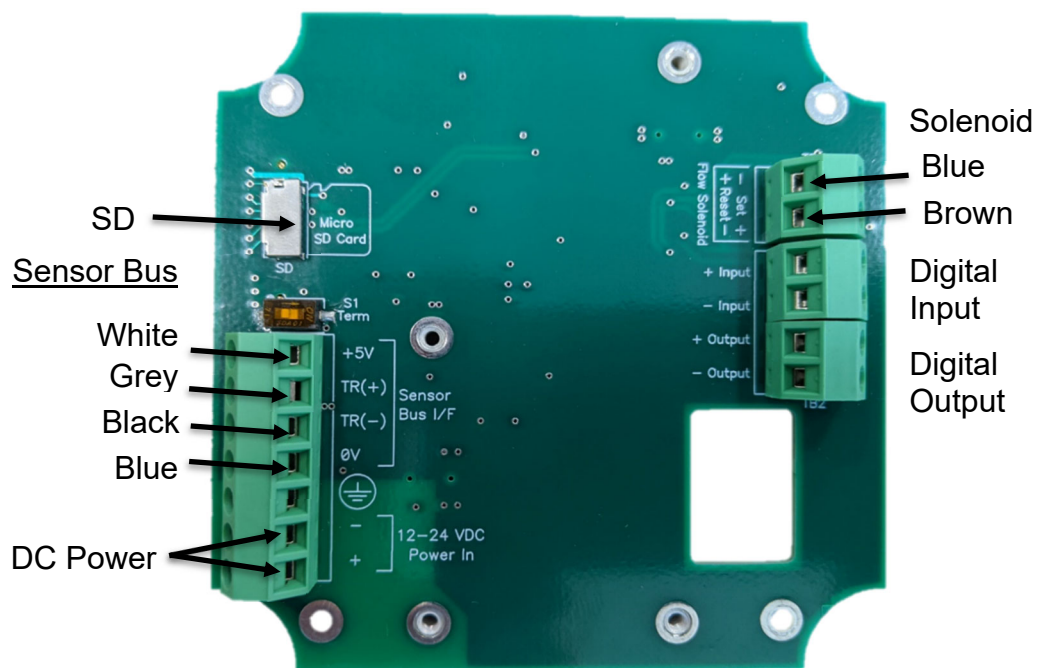

Figure 14 – External Connections
- Modem uploads twice per day (not shown in Fig 14 below)